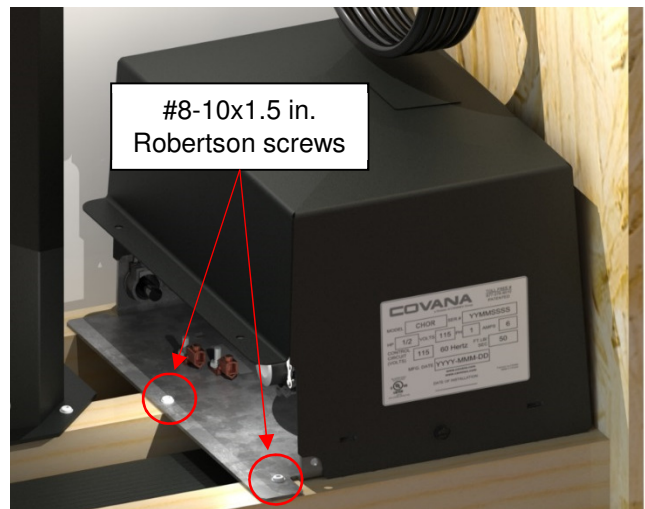

Figure 35
8) Unscrew the two #8-10 x 1.5 in. Robertson screws on the operator base plate, remove the operator from the crate and place it in a safe place. (Figure 35)